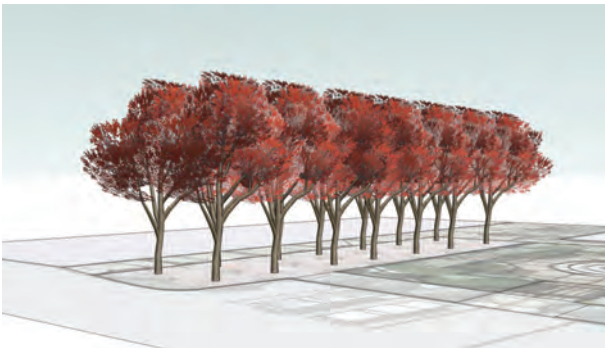

Fig. 10-4: Import and arrange 3D trees onto the plan image.
Add and adjust three varieties of 3D trees using the Accuracy method (Fig. 10-4 through Fig. 10-12).
3. Imported 3D vegetation of a uniform type looks artificial and repetitive; it lacks natural and organic qualities (Fig. 10-4). This unnatural appearance can be easily fixed with a custom extension called CLF Scale and Rotate Multiple. CLF Scale and Rotate Multiple randomizes the rotation axes and the height of selected components to create a more natural and organic habit (Fig. 10-5, Fig. 10-6). It can be found and installed from the Extension Warehouse for free. (See Chapter 5 for additional information.) Go to Extension > Chris Fulmer Tools > Scale and Rotate Multiple > Scale and Rotate Randomly. This will bring up a menu allowing you to adjust the scale factors.